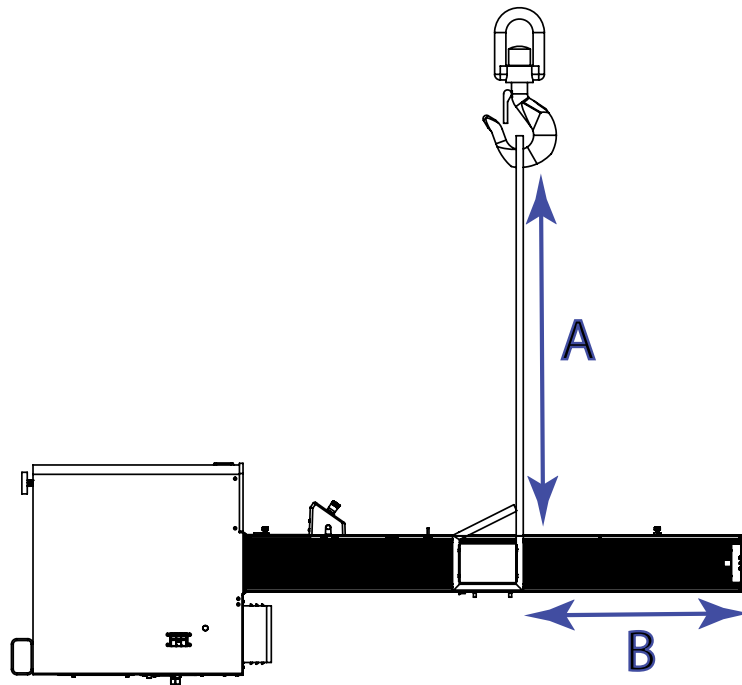

Figure 23. Attach the lifting slings
2. Attach the two lifting slings to the crosshead and attach them to the crane hook as shown in Figure 23 on page 79. If you use chains in lieu of slings, wrap the crosshead and top plate with protective material to protect from scratching and marring.
The length of the sling (A in Figure 23 on page 79) must be longer than the distance required to clear the top plate (B in Figure 23 on page 79). This ensures that the hook will not damage the frame during lifting.